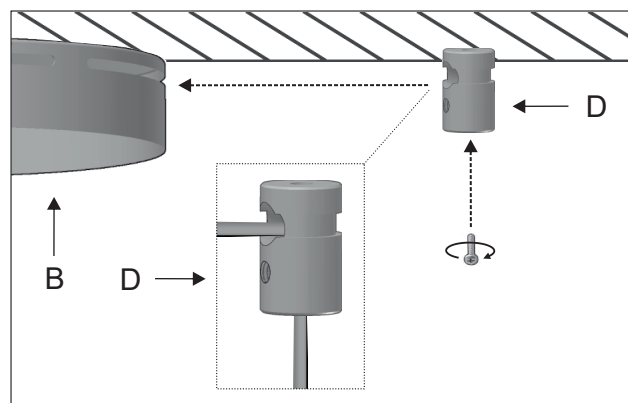

Figure 3
- 3 - Screw the cable holder (D) at the desired point in the ceiling. When creating a composition, we recommend to previously mark the heads's positions in order to get the desired figure.
**Attention:** Make sure that the cable outlet points towards the mounting bracket (B). Figure 3
- 3 - Atornillar el sujetacables (D) en el punto deseado del techo. En caso de crear una composición, aconsejamos marcarlos previamente para conseguir la figura deseada.